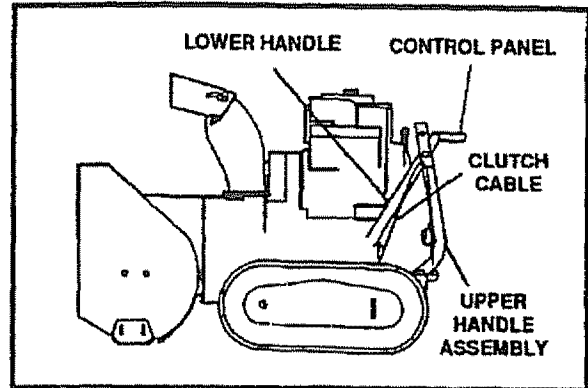
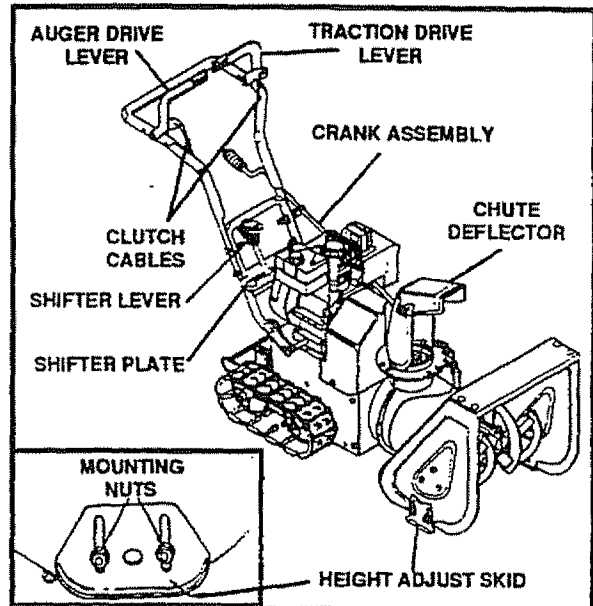

FIG. 1
FIG. 2
Figure 1 shows the snow thrower in the shipping position. Figure 2 shows the snow thrower completely assembled. Reference to the right and left hand side of the snow thrower is from the operator's position at the handle.
## TO REMOVE SNOW THROWER FROM CARTON (See Fig. 1)
- Your snow thrower is equipped with height adjust skids (See Fig. 2) on the outside of the auger housing. To adjust the skid height for different conditions, see To Adjust Skid Height paragraph on page 17.